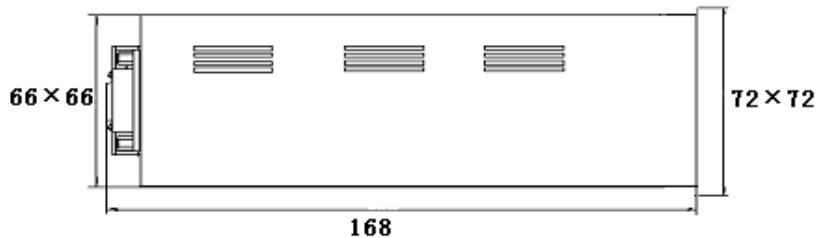

Figure1. Dimensions of D08-1G
4.1 Dimensions are showed in figure 1: